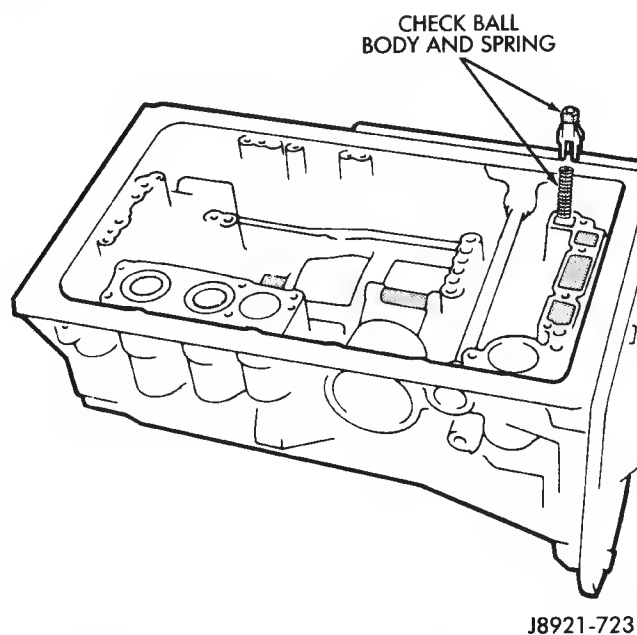

Fig. 58 Installing Check Ball Body And Spring
(74) Install new check ball body and spring (Fig. 58).